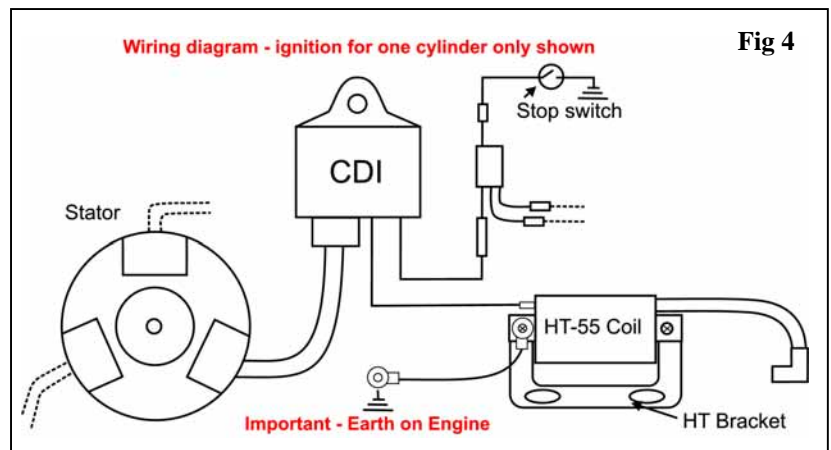

Fig 4
- Step 6** Note lead colour on the stator coil with yellow timing mark and connect this lead to a CDI and HT coil for cylinder 1. See wiring diagram fig 4.